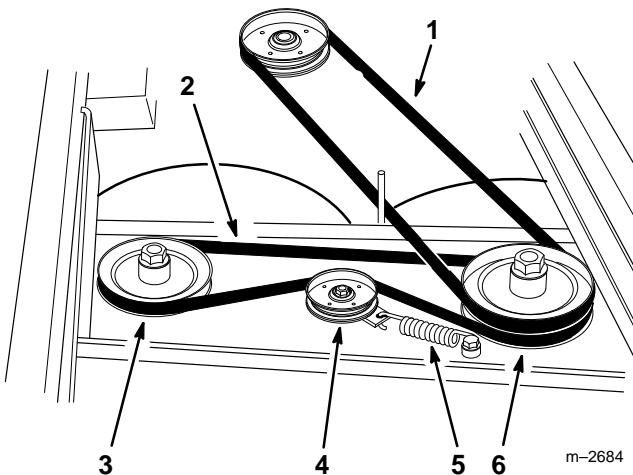

Figure 24
2. Grease the fittings on both spindle bearings (Fig. 24).
4. Disconnect the idler arm spring to relieve tension on the idler pulley, then remove the worn deck belt (Fig. 24).
5. Install the new deck belt around the right spindle pulley, around the inside of the idler pulley, then around the lower pulley on the left spindle (Fig. 24).
6. Reconnect the idler arm spring (Fig. 24).